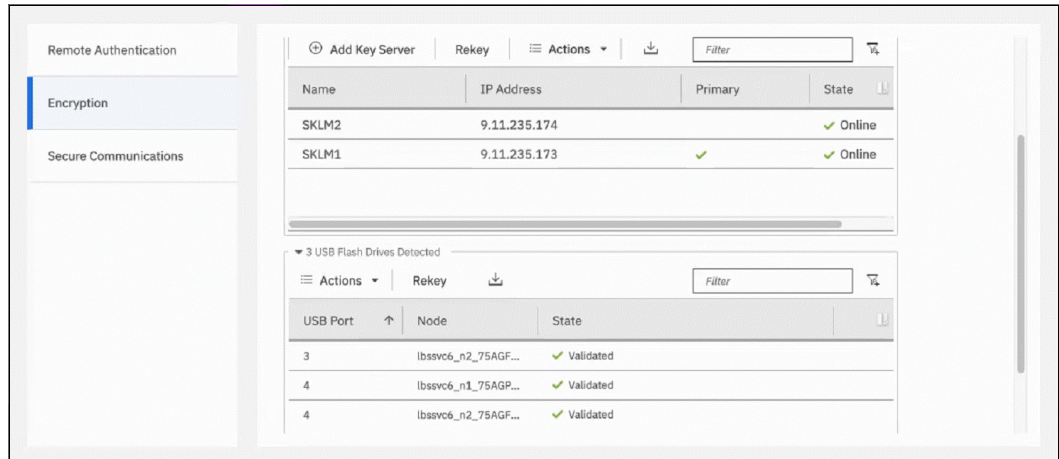

Figure 12-53 Encryption that is enabled with two key providers that are available
3. You can confirm that encryption is enabled and verify which key providers are in use by selecting **Settings** → **Security** → **Encryption**, as shown in Figure 12-53 on page 777. Note the state **Online** state of key servers and **Validated** state of USB ports where USB flash drives are inserted to make sure that they are properly configured.